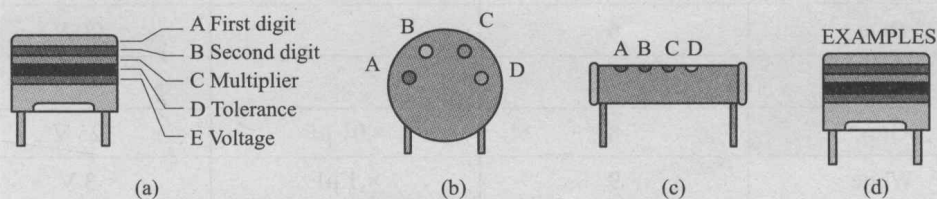

Fig. 1.1.7 Marking the capacity using colors
Sometimes, capacitors are identified with colors, similar to the 4-band system used for resistors (Fig. 1.1.7 and Tab. 1.1.2). The first two colors (A and B) represent the first two digits, and the third color (C) is the multiplier, and the fourth color (D) is the tolerance, and the fifth color (E) is the working voltage.
With disk-ceramic capacitors (Fig. 1.1.7 (b)) and tubular capacitors (Fig. 1.1.7 (c)) working voltage is not specified, because these are used in circuits with low DC voltage. If a tubular capacitor has five color bands on it, the first color represents the temperature coefficient, while the other four specify the capacity in the previously described way.